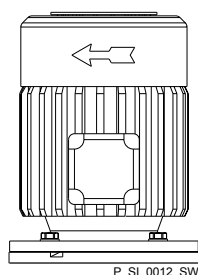

Fig. 21: Direction of rotation of motor
- When connecting the motor, pay attention to the correct direction of rotation indicated by the arrow on the fan cover, as shown in Fig. 21.